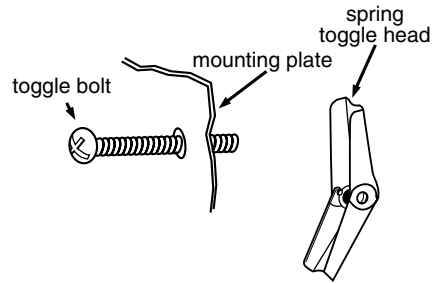

Figure 23
2. If you have drywall, Prepare the toggle bolts (not included) by putting the bolts through the corner holes and attaching a spring toggle head to the end of each toggle bolt as shown in Figure 23.
3. Place the mounting plate against the wall and match the screw holes. See Figure 23.